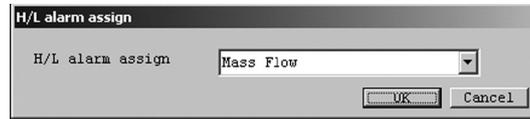

Fig.51
- ① Click the "Setup (S)" menu, and then select and click "H/L alarm assign" from the "H/L alarm" drop-down list.
- ② The following window will be displayed (Fig. 51). Set the H/L alarm assignment here.